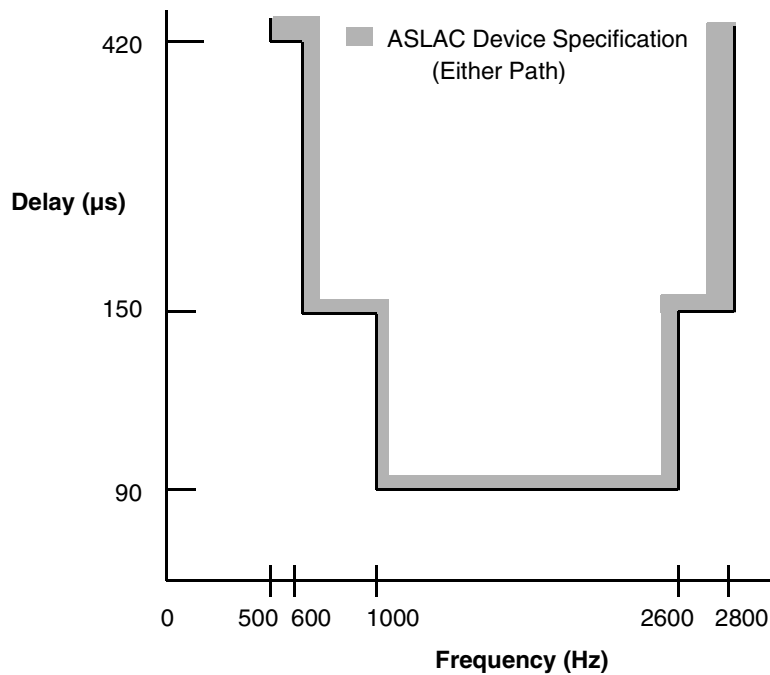

Figure 2. Group Delay Distortion
14. The Group Delay specification is defined as the sum of the minimum values of the group delays for the transmit and the receive paths when the transmit and receive time slots are identical and the B, X, R, Z filters are disabled with null coefficients. For PCLK frequencies between 1.03 MHz and 1.53 MHz, the group delay may vary from one cycle to the next. See Figure 2, Group Delay Distortion also.
For either transmission path, the group delay distortion is within the limits shown in Figure 2. The minimum value of the group delay is taken as the reference. The signal level should be -10 dBm0.